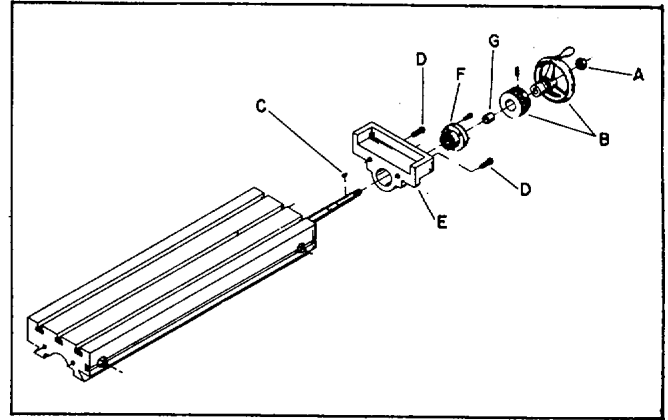

Fig. 2.
1. Remove hex nut (A), right handwheel assembly (B), and woodruff key (C) Fig. 2.
2. Remove the two button head socket cap screws (D) Fig. 2. The end bracket (E), bearing holder with bearing (F), and spacer (G), may now be removed from the table.